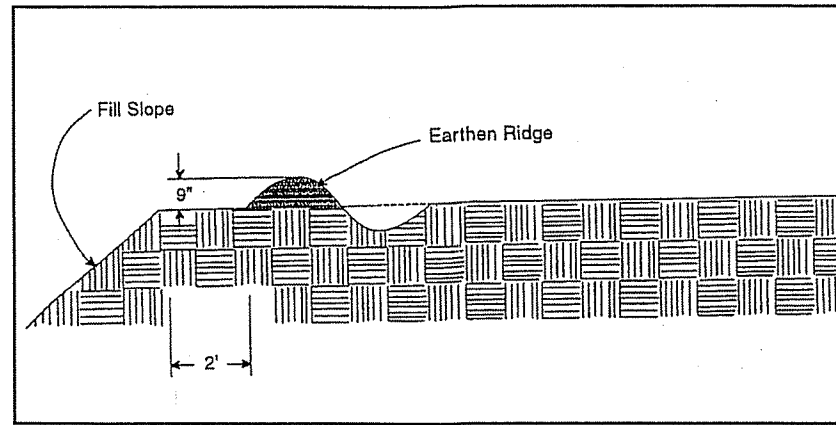

Figure 4.4f. Temporary Fill Diversion
The temporary fill diversion is intended to provide some slope protection on a daily basis until final elevations are reached and a more permanent measure can be constructed. This measure can be carried out using a motor grader or one of the smaller bulldozers. To shape the diversion, the blade of machinery used may run near the edge of the fill with its blade tilted to form the channel, as described in Figure 4.4f. This work should be done at the end of the working day and should provide a channel with a berm on the lower side to protect the slope. Whenever possible, the temporary diversion should be sloped to direct water to a stabilized outlet. If the runoff is diverted over the fill itself, the practice may cause more problems than it solves by concentrating water at a single point.
The minimum height of the supporting ridge shall be 9 inches (23 cm) (see Figure 4.4f).
2. The diversion shall be located at least 2 feet (60 cm) inside the top edge of the fill (see Figure 4.4f).